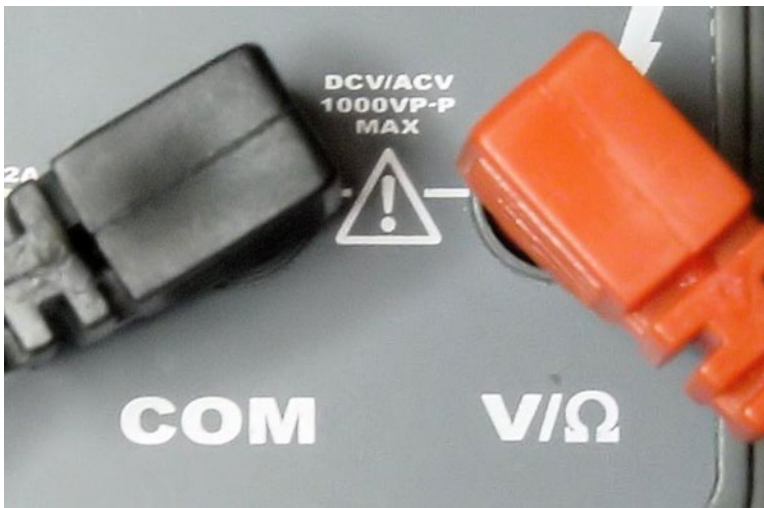

Figure 7-2. Common and voltage test lead terminals on multimeter
1. Connect the black-colored test lead to the multimeter terminal (hole) marked COM (see Figure 7-2).